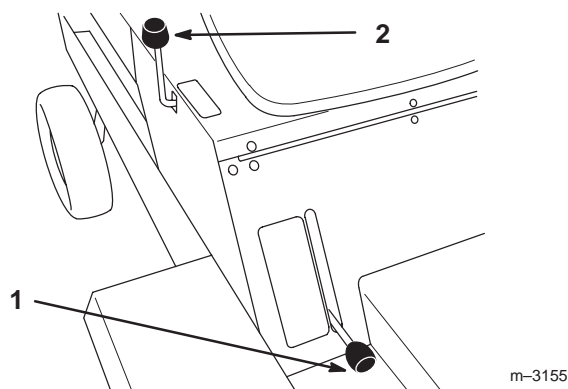

Figure 10
The implement lift lever (Fig. 10) is used to raise and lower various attachments.
2. Pull implement lift lever (Fig. 10) rearward to raise attachment to the desired height.
2. Push implement lift lever (Fig. 10) forward to lower attachment.